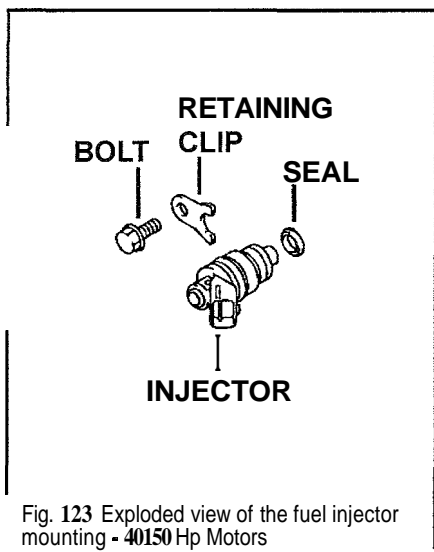

Fig. 123 Exploded view of the fuel injector mounting - 40150 Hp Motors
◆ See Figures 123 and 124
◆ See Figures 123, 124 and 125
- ◆ See Figures 123 and 124
- ◆ See Figure 123